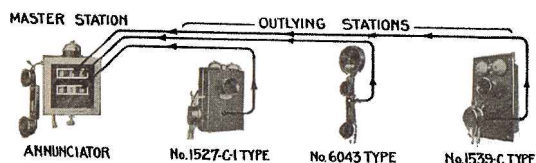

Fig. 2
**Fig. 2. One-way Ringing** (Annunciator without Push Buttons) enabling the outlying stations to ring the master station but the master station cannot ring the outlying stations.